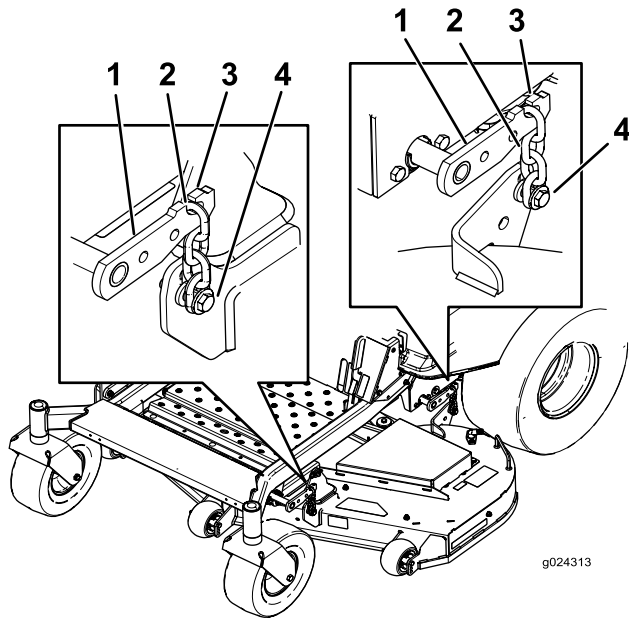

Figure 66
3. Remove the chains from the hooks on the deck lift arms (Figure 66).
6. Lift the rear of the mower deck and attach the chains to the rear lift arms (Figure 66).
7. Attach the front chains to the front lift arms (Figure 66).